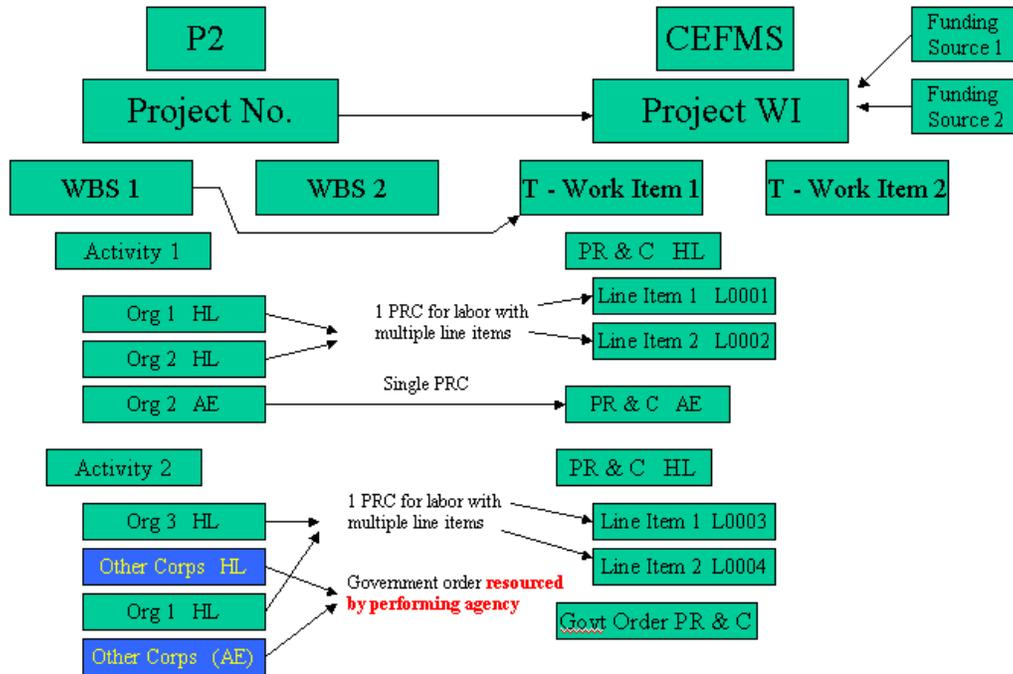

Figure 2. Work performed within “home” District.
2. **Response Accepted.** Purchase Request and Commitments (PR&Cs) for the project will be created via a system interface. **Confirm, PR&Cs can be created in CEFMS prior to PMP approval. Response Accepted. Reworded. See master document - seed money must be attresed in other sections to support labor for PMP development** The interface will be executed upon user request. At a minimum, the user has the option to select the following: a) entire project, b) specific WBS or c) specific activities. PR&Cs will be systematically created for labor, government orders and contracts only. Figure 2 illustrates the interface between P2 and CEFMS, and the alignment between WBS elements and corresponding resource estimates, with the creation of work items and PR&Cs.